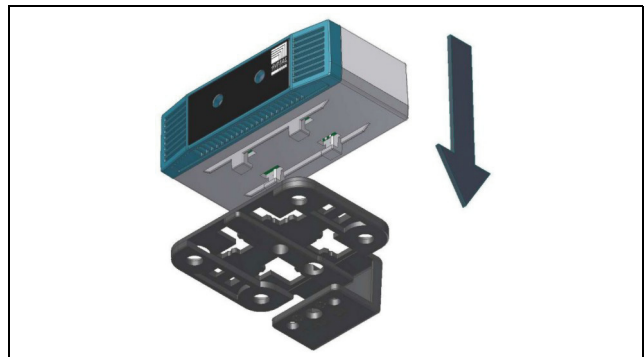
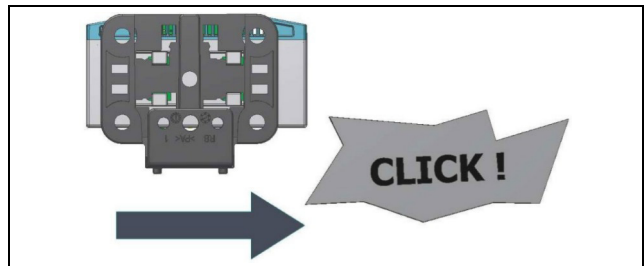

Fig. 3: Attaching the sensor to the bracket
Fig. 4: Latching the sensor into place on the bracket
- Then place the leak sensor on the bracket (fig. 3) and latch it into place (fig. 4).